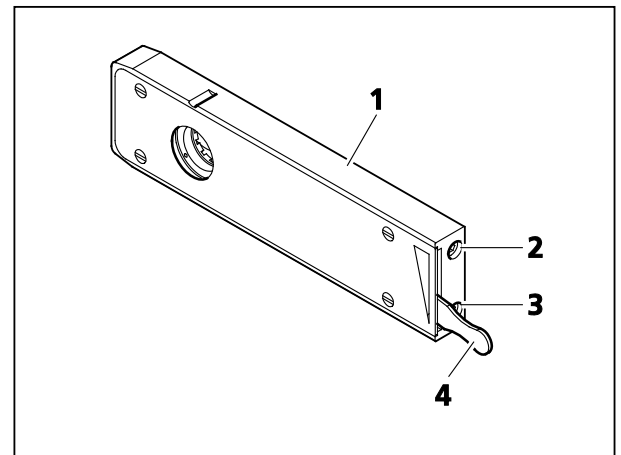

Fig. 68 Iris diaphragm slider, manual
- Slot for iris diaphragm slider (Fig. 68/1) as aperture / luminous field diaphragm for setting KÖHLER illumination
- Insert the iris diaphragm slider (Fig. 68/1) as luminous-field diaphragm into slot **F**
- The lever (Fig. 68/4) on the slider is used to open and close (lower position) the iris diaphragm
- The two centering screws (Fig. 68/2 and 3; socket head SW 3) permit the stop to be centered in the beam path